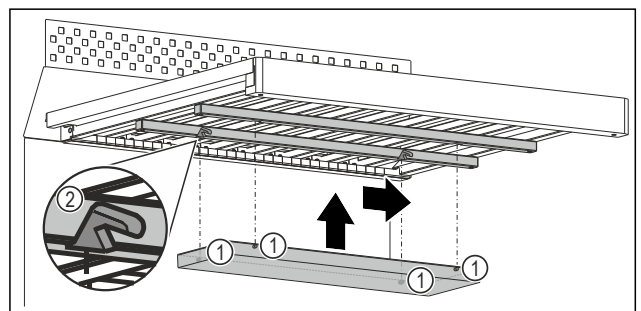

Fig. 104 Example illustration
- ▶ Insert each peg *Fig. 104 (1)* into the corresponding recess *Fig. 104 (2)* on the strips under the wooden grate.